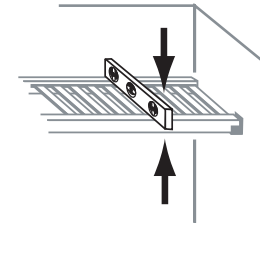

FIG. 4.4
- Level shelf (front to back - Fig. 4.4)